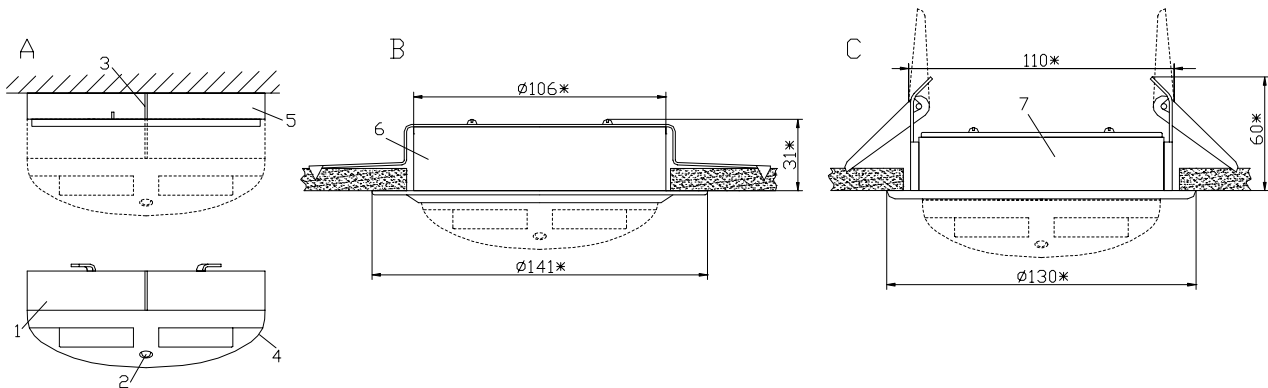

Figure 2
There are three ways to attach S2000-IP detectors (see Figure 2). To attach a detector to solid surface (Variant A) the detector base plate provided is used. Optionally, Suspended Ceiling Mounting Kit MK-1 (Variant B) or MK-2 (Variant C) can be purchased to install a S2000-IP detector into a suspended ceiling.
To install the detector on the base plate, align the guide on the detector with the short guide of the base plate. Then turn the detector clockwise until the detector guide will be aligned with guide 3 as shown in Figure 2 (A).